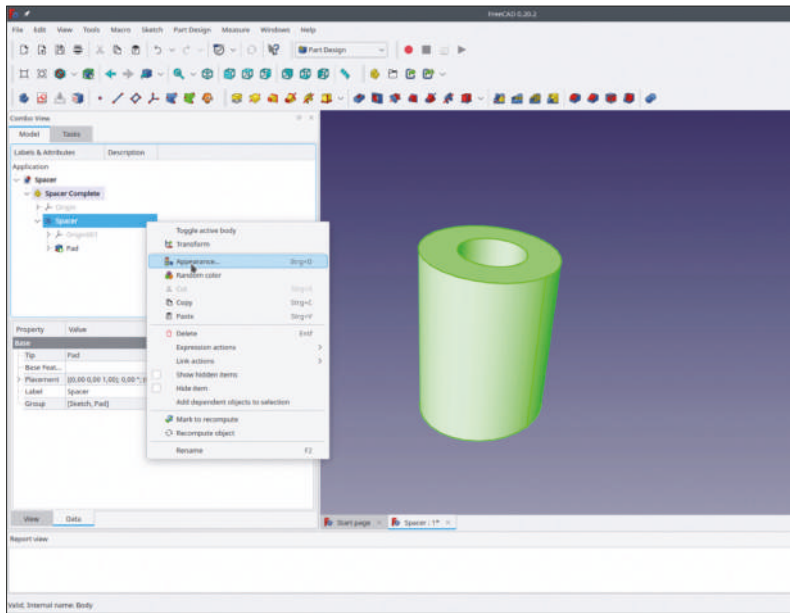

Figure 4-7
**6.** In the 3D view, the spacer still appears in its standard color (Figure 4-7). With a right-click of the 'Spacer' body, you can select the item 'Appearance...' from the context menu (Figure 4-7).